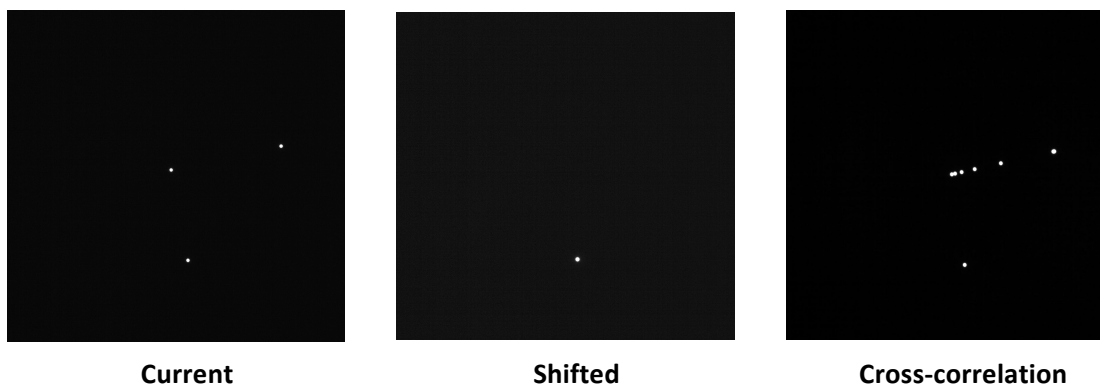

Fig. 5 Images appear after the calibration process.
The images appear after the calibration should look similar to Fig. 5:
The **Current** pattern in Fig. 5 is a sum of 3 recorded diffraction patterns – the original and 2 with induced changes along x- and y-axes of the coil.
The **Shifted** pattern in Fig. 5 shows the last pattern with the deviation of the y-axis of the coil.
The **Cross-correlation** pattern in Fig. 5 is the sum of 2 individual cross correlation patterns: (1) the original pattern and the pattern where the x-axis has been changed; (2) the original pattern and the pattern where the y-axis has been changed. Since in each case the cross-correlation shows a single peak then the sum of the 2 cross-correlation functions must show **2 well-separated peaks**.